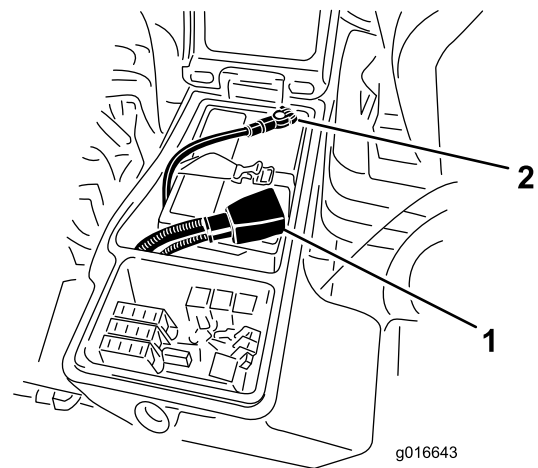

Figure 60
6. Install the positive cable (red) to the positive (+) terminal and the negative cable (black) to the negative (-) terminal of the battery (Figure 60).